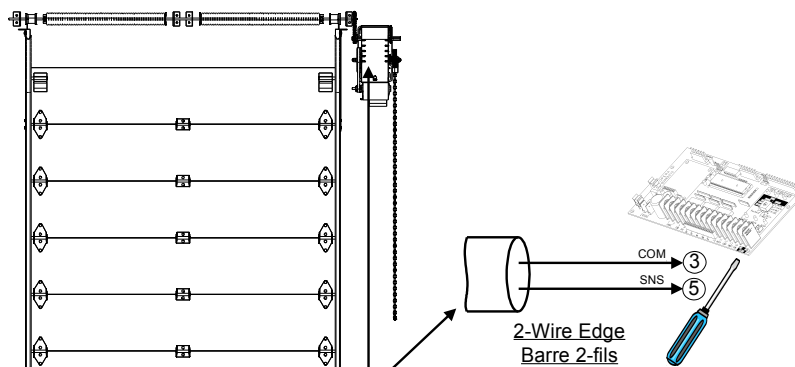

Figure 21 - Electric Reversing Edge
3. Use a coil cord or take-up reel to connect the sensing edge wires to the operator terminals. Install electric wires according to Figure 21.